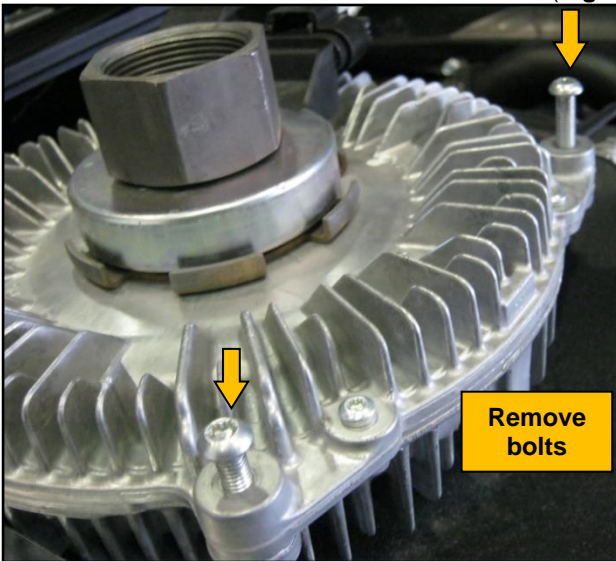

Figure 14 – Modifying the fan
- Remove the 4 Torx bolts from fan clutch. Discard bolts. (Figure 14)